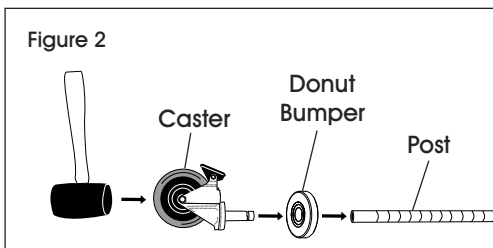

Figure 2
2. Ensure post is positioned as shown. (See Figure 2) Engage the caster brakes to keep casters from rolling during assembly. Use a rubber mallet to tap caster stems through the donut bumpers and into posts.